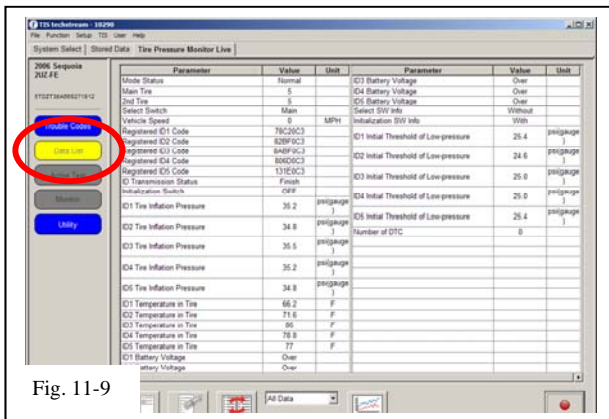

Fig. 11-9
- (l) Select “DATA LIST” to view and confirm the TPMS ID numbers have been correctly registered (Fig. 11-9).